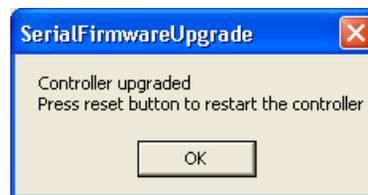

Figure 44. The Serial Firmware Upgrade window.
6. Select Firmware version1 from the drop-down menu and click **Upgrade**. File transmission starts to the controller. This operation may take a few minutes. A confirmation window opens when the controller is upgraded, see Figure 44.